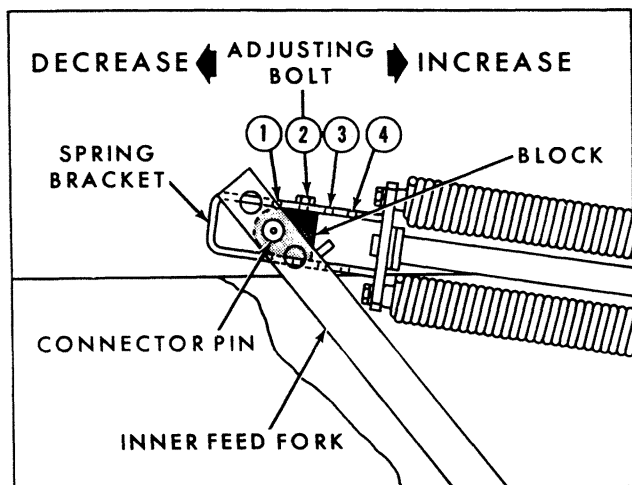

Figure 1
When timing the inner feed fork to the plunger (Step 4, page 15, of your operator's manual, the adjustment must be made with the feed fork tines flush to 1" above the vertical flange of the feed fork stripper slot, with the adjusting bolt in the second hole from the left, the curved end of the block facing left, and the connector pin positioned in the middle hole of the feed fork as shown in Figure 1. Failure to do so will result in incorrect feed fork timing.
1. Reposition the adjusting bolt, Figure 1, in the next hole, (3) or (4), to the right (facing direction of baler travel).
2. Remove the connector pin, turn the bearing block end-for-end so that the curved end is to the right, and insert the adjusting bolt in hole (3).